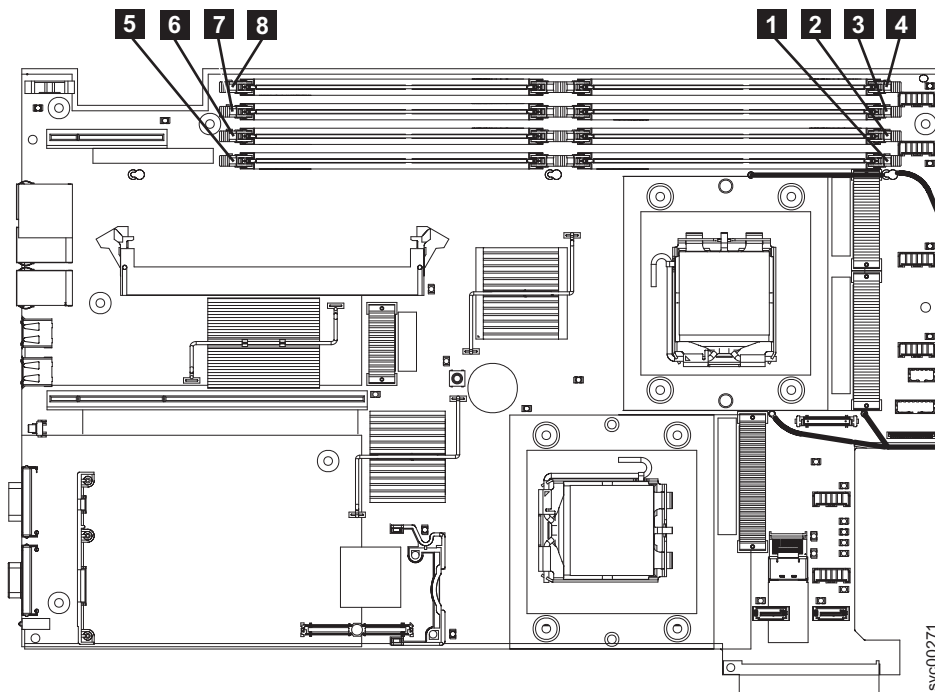

Figure 95. Locating the SAN Volume Controller 2145-8G4 memory modules
- The original version (Rev 1) uses eight 1 GB memory modules in slots **1** through **8**, which are shown in Figure 95.